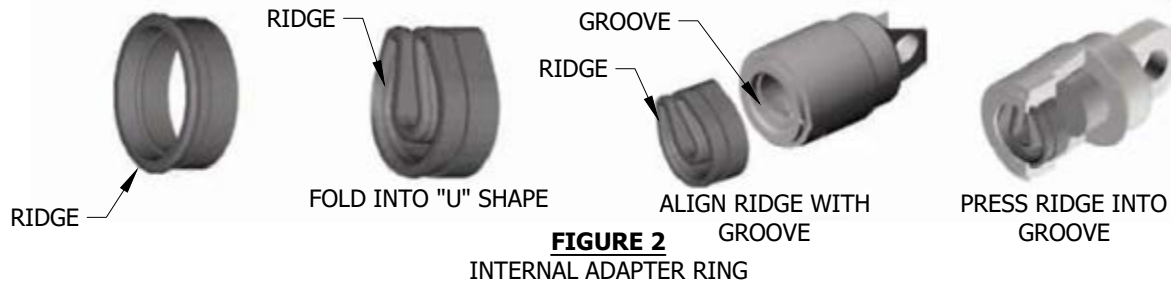

FIGURE 2
- 2. FOR ELASTIMOLD 15, 25, OR 35KV LBE ELBOWS HAVING MOLDED IN TEST POINTS, INSTALL INTERNAL ADAPTER RINGS AS SHOWN IN FIGURE 2. (OTHER ELBOW TYPES CONSULT FACTORY).
- ① REMOVE TEST POINT CAP. CLEAN & DRY TEST POINT. APPLY A LIGHT COAT OF SILICONE DIELECTRIC GREASE TO THE INSIDE OF THE BOOT.
- ② USING A PUSHING AND ROTATING MOTION SEAT THE BOOT ONTO TEST POINT OF THE ELBOW.
- ③ ALIGN ARROW ON TEST POINT LABEL WITH ELBOW PULLING EYE.